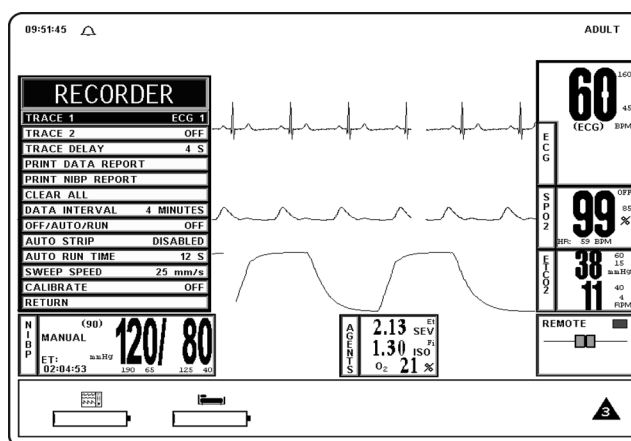

Figure 5-1. The RECORDER Menu
5.2 The RECORDER Menu. The **RECORDER** Menu provides adjustments that will allow this monitor to supply concise and up to date printouts suitable to a wide variety of situations. Pressing the **RECORDER SETUP** Menu-Select key brings up the **RECORDER** Menu (See Figure 5-1). If the recorder is not installed, the message “**RECORDER OPTION NOT INSTALLED**” is displayed on the screen. *This menu has a time-out feature. If no action is taken for approximately 60 seconds, the monitor will automatically return to the Normal Screen.*